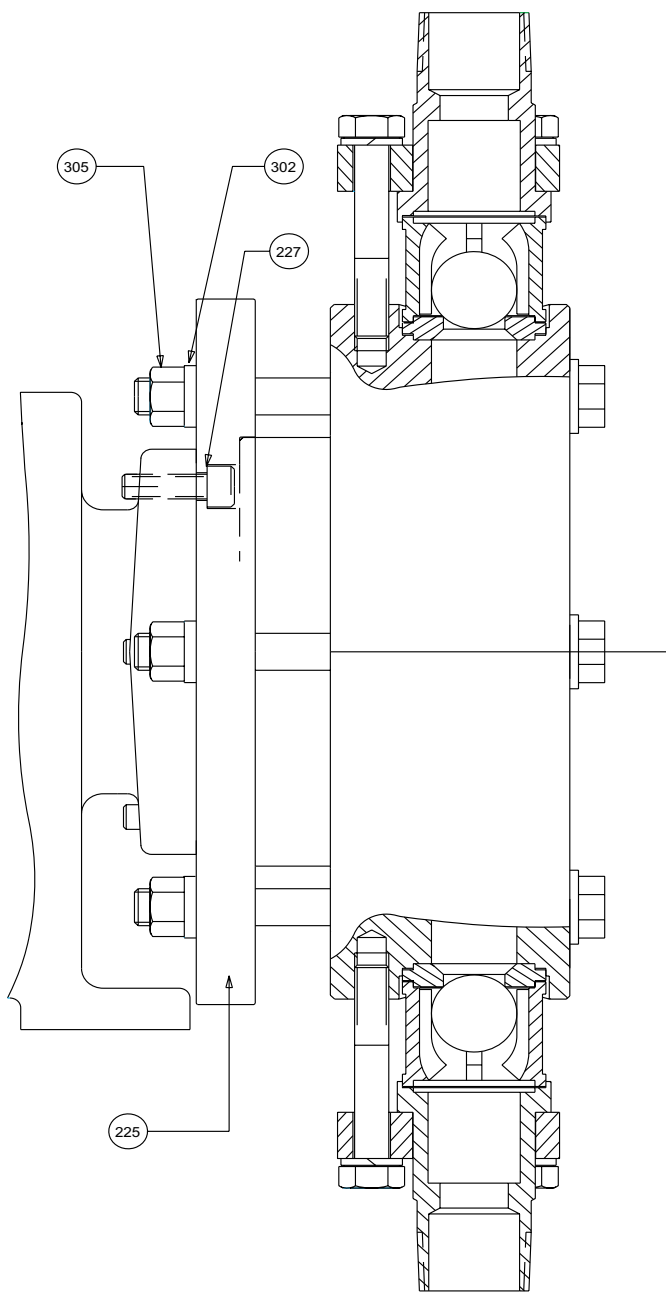

Figure 13: B80 Liquid End Adapter Parts
1. Install a new oil seal (70) onto the connecting rod.
2. Slide small oil seal clamp (210) onto the end of the connecting rod and secure in place with the retaining ring (220). A drive socket large enough to fit over the end of the connecting rod should be used to push the retaining ring until it snaps into place in the retaining ring groove in the connecting rod.
3. Secure the large oil seal clamp (80) over the oil seal with the four slotted screws (90).
4. Place the diaphragm support ring (230) into position making sure beveled side (for diaphragm support) is facing up (refer to Figure 8 if necessary). For B80 liquid ends, the support ring (230) has stepped diameters. Make sure that the larger diameter is installed into the metal adapter ring (225 in Figure 13).
6. Turn the motor fan by hand until the diaphragm rests properly on the diaphragm support ring (230). Reinstall the motor shroud if previously removed.